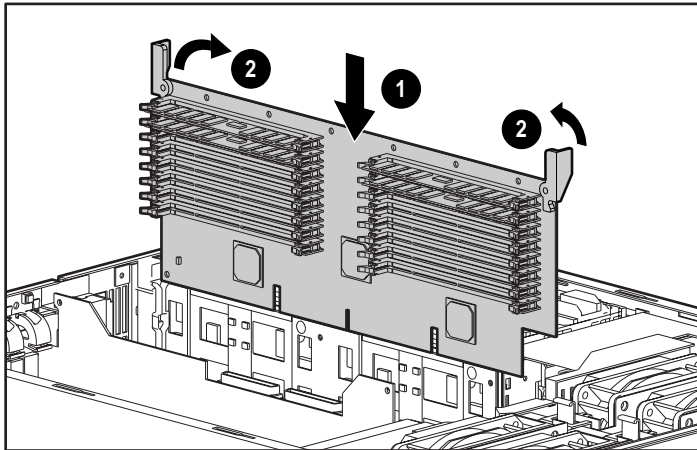

Figure 4-9. Installing memory board
4. Install the memory board as shown in Figure 4-9.